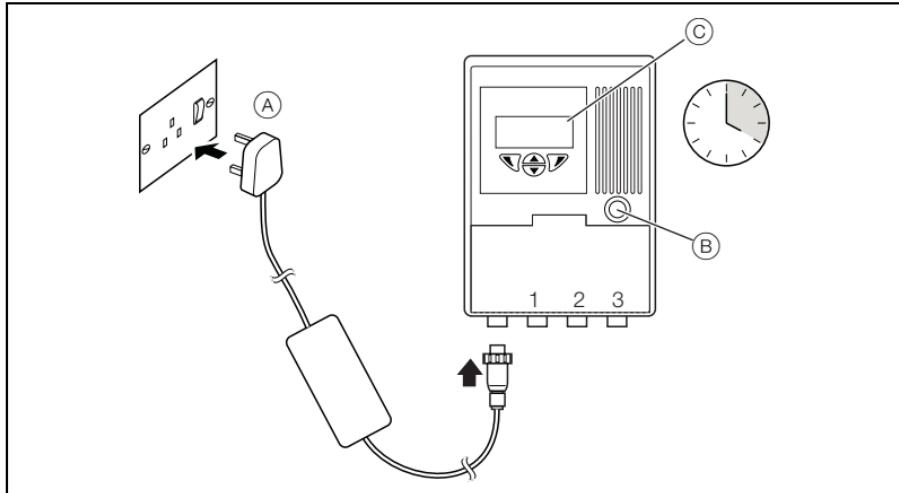

Fig. 6.1 Recharging the CalMaster2
1. Plug in the universal mains adaptor (A) – see Fig. 6.1.
2. Press the 'On' button (B). Failure to do this results in slow and partial charging of the battery.
3. Correct connection is confirmed by the mains icon in the top right corner of the display (C).
5. If fast-charging mode was engaged, once the required battery voltage is reached the unit switches fast-charge off automatically and the display switches off. Pressing the 'On' button (B) starts the CalMaster 2.
7. CalMaster 2 can be used during charging by pressing the button labelled 'Stop' on the display, followed by the 'On' button (B). Leave the charger connected. In this mode, charge times are extended.